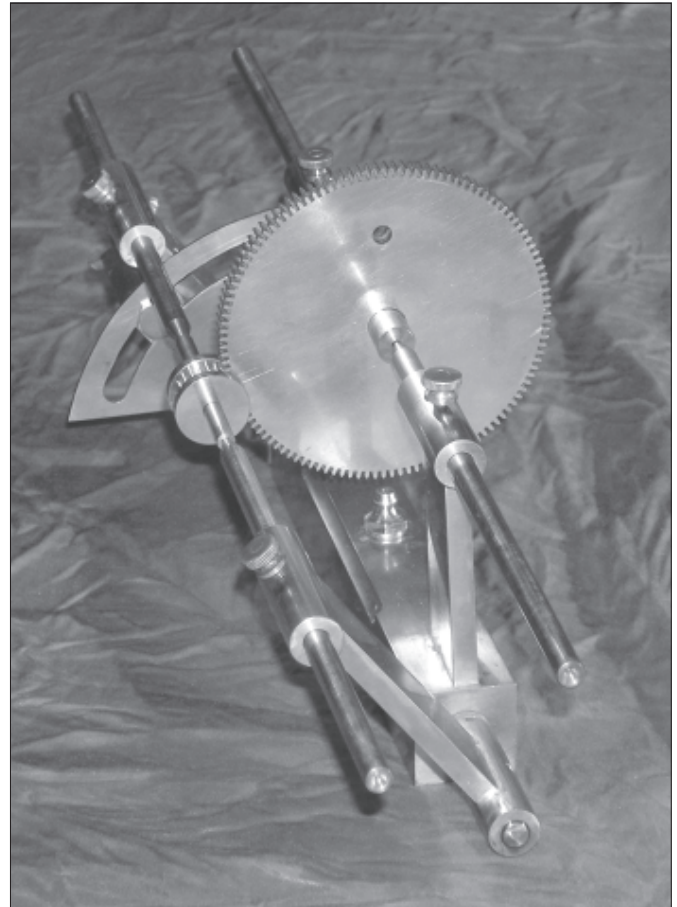

Figure 1
A) The ends of the pivots must have a shallow cone or a dome that is concentric with the pivot diameter, if it is not concentric the pivot will not center exactly in the hollow cones of the runners of the depthing tool. The runners are the long steel rods that support the arbors of the gears for depthing, they have a long tapered point at one end and a hollow center at the other (Figure 1). This photograph shows arbors with center holes and the pointed ends of the runners are being used to support them. It is more usual to support the pivots in the hollow cones that can be seen facing the camera.